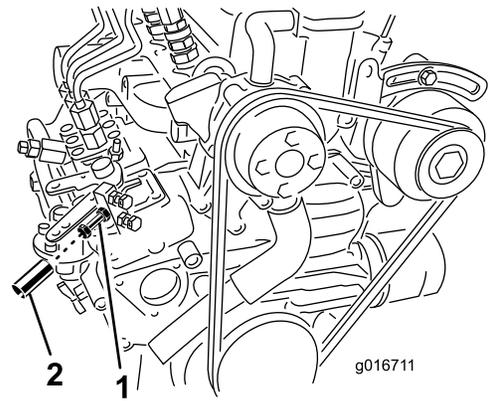

Figure 4
3. Using a tachometer and the throttle-adjustment screw on the engine (Figure 4), set the engine speed to 3,200 rpm maximum, then tighten the jam nut on the adjusting screw.
5. Slide an aluminum tube over the throttle-adjustment screw and jam nut (Figure 4) and crimp it down over the screw so that the screw cannot be adjusted again.